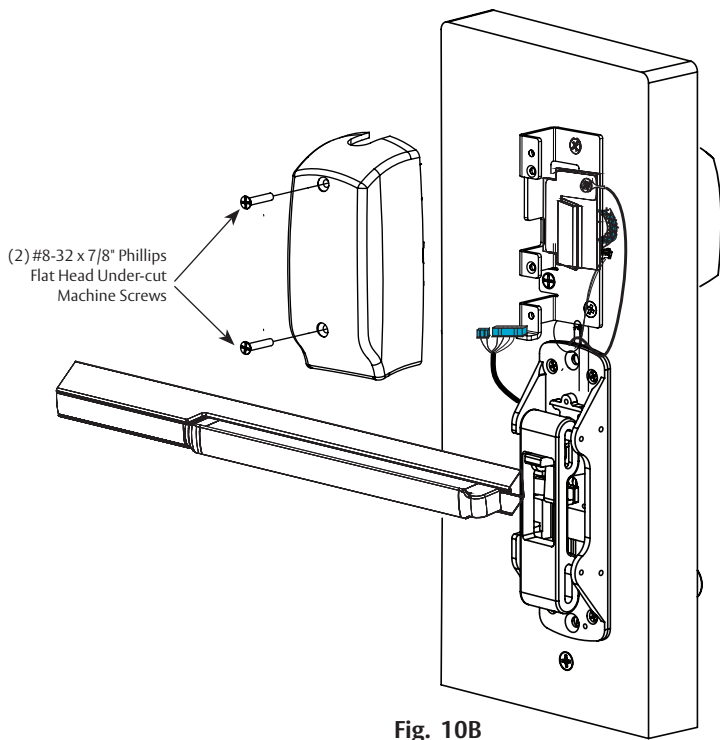

Fig. 10B
3. Mount inside escutcheon assembly to plate using (2) #8-32 x 7/8" Phillips flat head undercut machine screws (Fig. 10B).